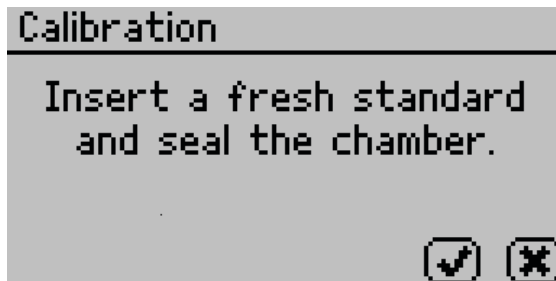

Figure 61 Calibration instruction dialog
4. A prompt will appear to insert a fresh standard and seal the chamber (Figure 61).